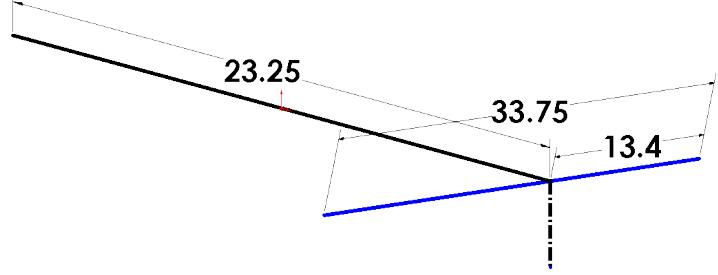

Fig. 8
Step 17. Draw vertical centerline down from intersecting lines, Fig. 8. Keep line vertical or on the Y axis